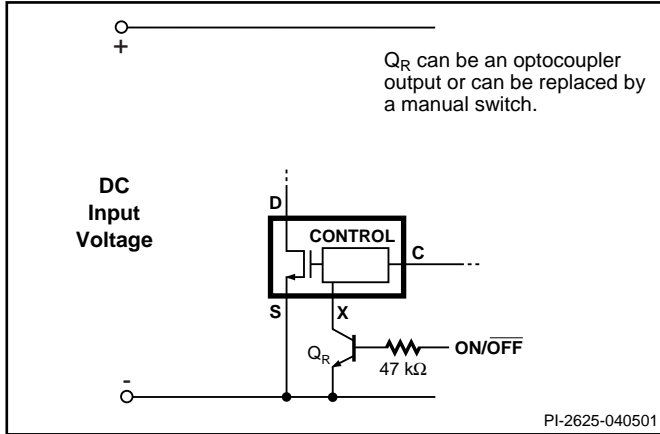
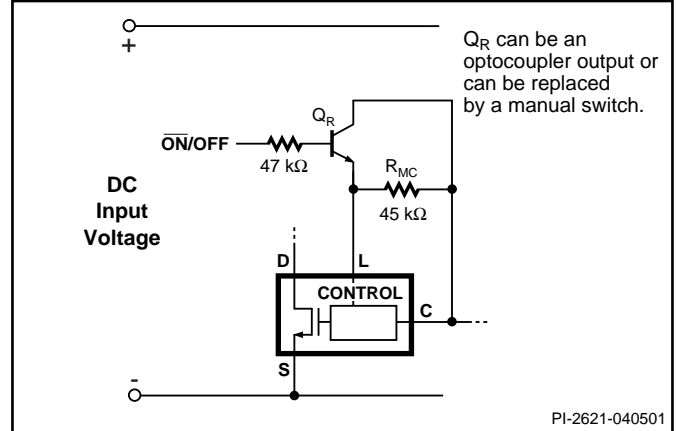

Figure 22. Active-on (Fail Safe) Remote ON/OFF.
Figure 23. Active-off Remote ON/OFF. Maximum Duty Cycle will be reduced.
*TOPSwitch-GX* can be turned on or off by controlling the current into the LINE-SENSE pin or out from the EXTERNAL CURRENT LIMIT pin (Y, R or F package) and into or out from the MULTI-FUNCTION pin (P or G package) (see Figure 11). In addition, the LINE-SENSE pin has a 1 V threshold comparator connected at its input. This voltage threshold can also be used to perform remote ON/OFF control. This allows easy implementation of remote ON/OFF control of *TOPSwitch-GX* in several different ways. A transistor or an optocoupler output connected between the EXTERNAL CURRENT LIMIT or LINE-SENSE pins (Y, R or F package) or the MULTI-FUNCTION pin (P or G package) and the SOURCE pin implements this function with “active-on” (Figures 22, 29 and 36) while a transistor or an optocoupler output connected between the LINE-SENSE pin (Y, R or F package) or the MULTI-FUNCTION (P or G package) pin and the CONTROL pin implements the function with “active-off” (Figures 23 and 37).